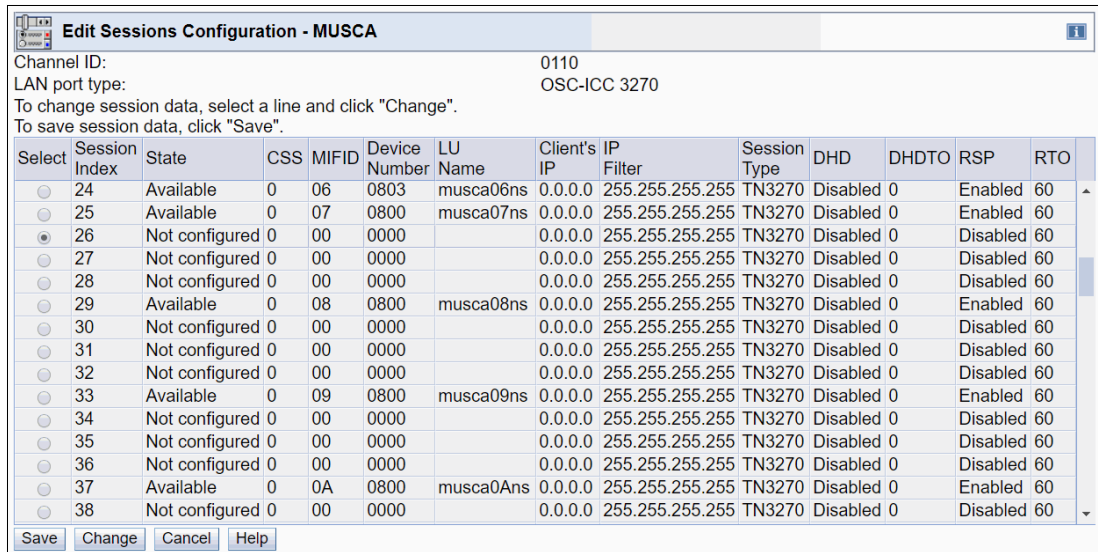

Figure 7-6 Edit Sessions Configuration selection
- The Edit Sessions Configuration window opens (see Figure 7-6). To configure a new session, select a number from the Session Index column and click **Change**.